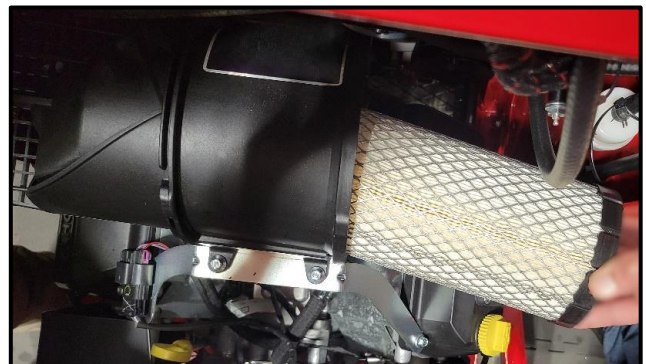

Figure 2 Air Filter Removal Process
5. Pivot the existing air cleaner element to slip by the side panel using the process shown. [Figure 2]